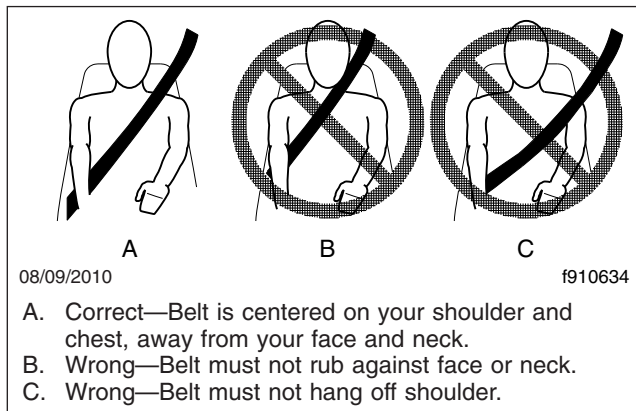

Fig. 7.8, Proper Shoulder Strap Fit
3. Position the shoulder strap diagonally across your chest with the adjustable D-loop bracket (if equipped). The shoulder strap must be centered on your shoulder and chest, away from your face and neck. See Fig. 7.8. If desired, engage the Komfort Latch as follows.
5. Position the shoulder strap diagonally across your chest with the adjustable D-loop bracket (if equipped). The shoulder strap must be centered on your shoulder and chest, away from your face and neck. See Fig. 7.8.